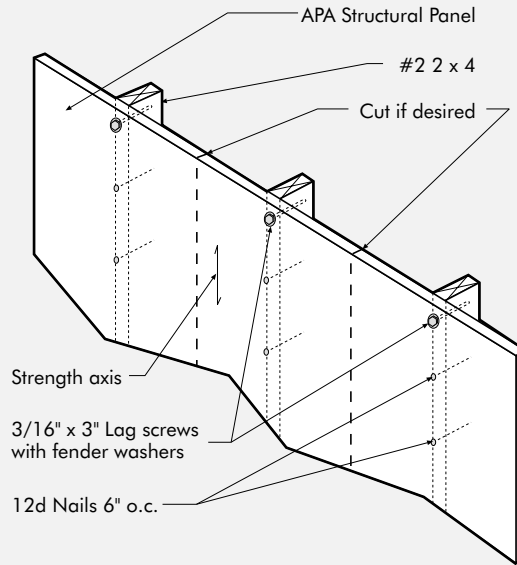

FIGURE 2
2. Cut APA EXTERIOR plywood for the shutter support – window trim. Make the thickness of the inner spacer slightly greater than that of the shutter to allow the shutters to slide without binding. (The inner trim spacer of plywood is left out of one side of the window framing to allow for the insertion of the shutters.) Orient the plywood face grain of the trim as indicated in the diagram. (Plywood with four or more plies may be oriented either direction.) Lap the corners to allow the outer trim to be attached to the inner spacer at the corners. (Figure 2)